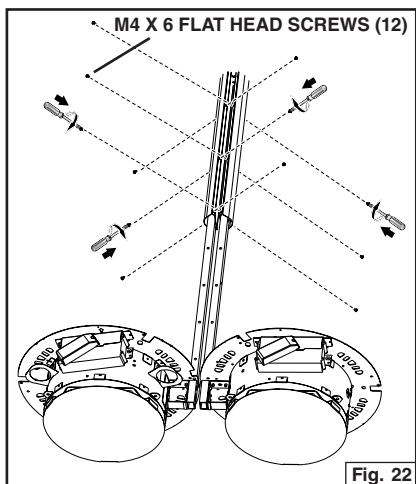
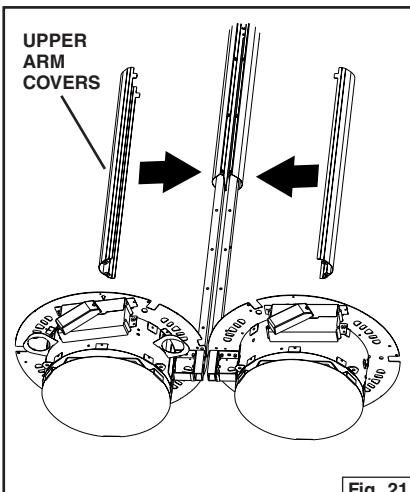

Fig. 22
Fig. 21
1. Attach (2) Upper Arm Covers to the Upper Brackets with (12) M4 x 6 flat head screws. Remove the protective coating. Fig. 21 and Fig. 22.